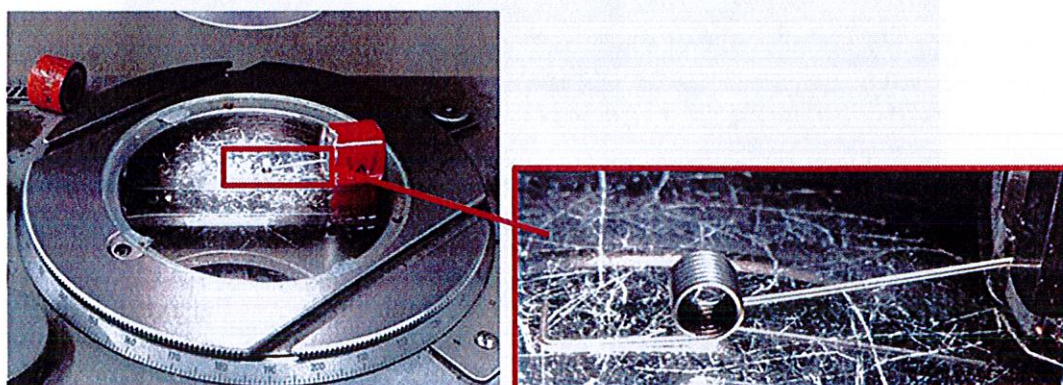

Figure 11: Use the magnet to ensure that the 2nd leg and foot are flat to the glass stage.
**6.2.8. Adjust Angle of the Component.** With the component still in the same orientation as set up in step 6.2.4, use the magnet to prop up the 1st leg to ensure that the 2nd leg and foot are flat to the glass stage of the profile projector, as show in Figure 11: with the rotating screen set to 90.0°